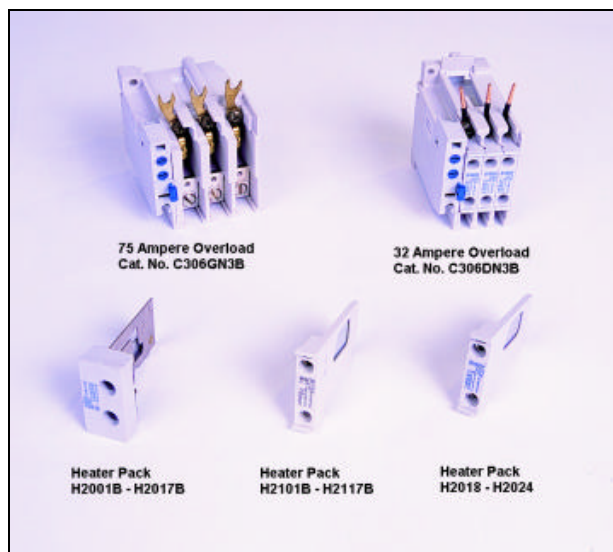

Fig. 24 C306 Thermal Overload Relay and Heater Pack.
C306 THERMAL OVERLOAD RELAYS (FIG.24)
- Class 10 or 20 heater packs. (Fig. 24) Use Class 10 heaters with fusible or thermal magnetic breaker disconnects only.